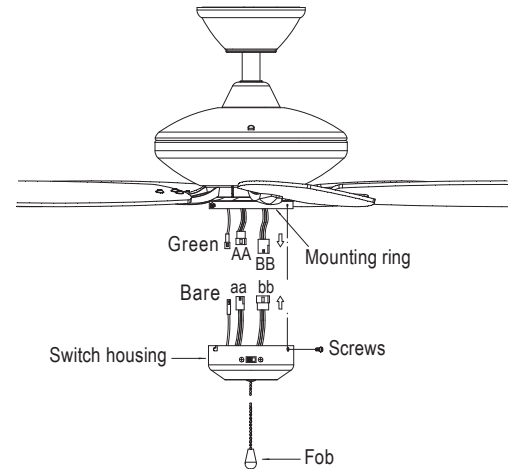

Fig. 15
**Step 1.** While holding the switch housing under your ceiling fan, make the wire connections. Plug the connector of the green ground wire from the fan to the connector of the bare wire from the switch housing. Then connect the small wire connector from the fan (AA) to the small wire connector from the switch housing (aa) and connect the larger wire connector from the fan (BB) to the larger wire connector from the switch housing (bb). (Fig. 15)
**Step 2.** Carefully push all the wires into the switch housing. Attach the switch housing to the mounting ring with the screws provided. Make sure each screw is tight. (Fig. 15)